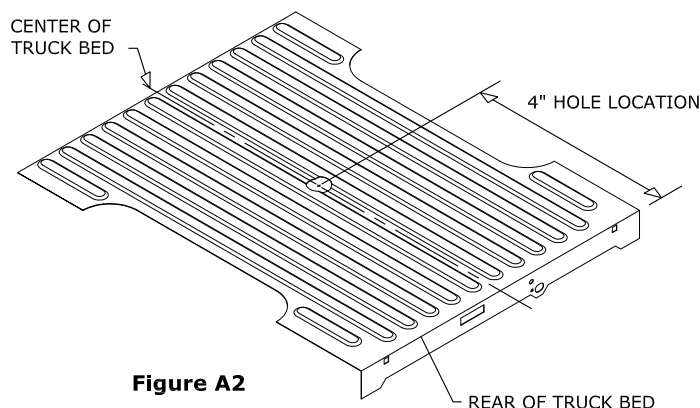

Figure A2
6. **Mark the 4" hole location.** Using a tape measure hooked over the rear edge of the bed (at tailgate end), measure the location for the hole as shown in Figure A2. Next, locate the center of the bed by measuring the distance between the wheel wells and dividing by two. The center of the hole will be at the intersection of the center of the bed and the first distance measured.